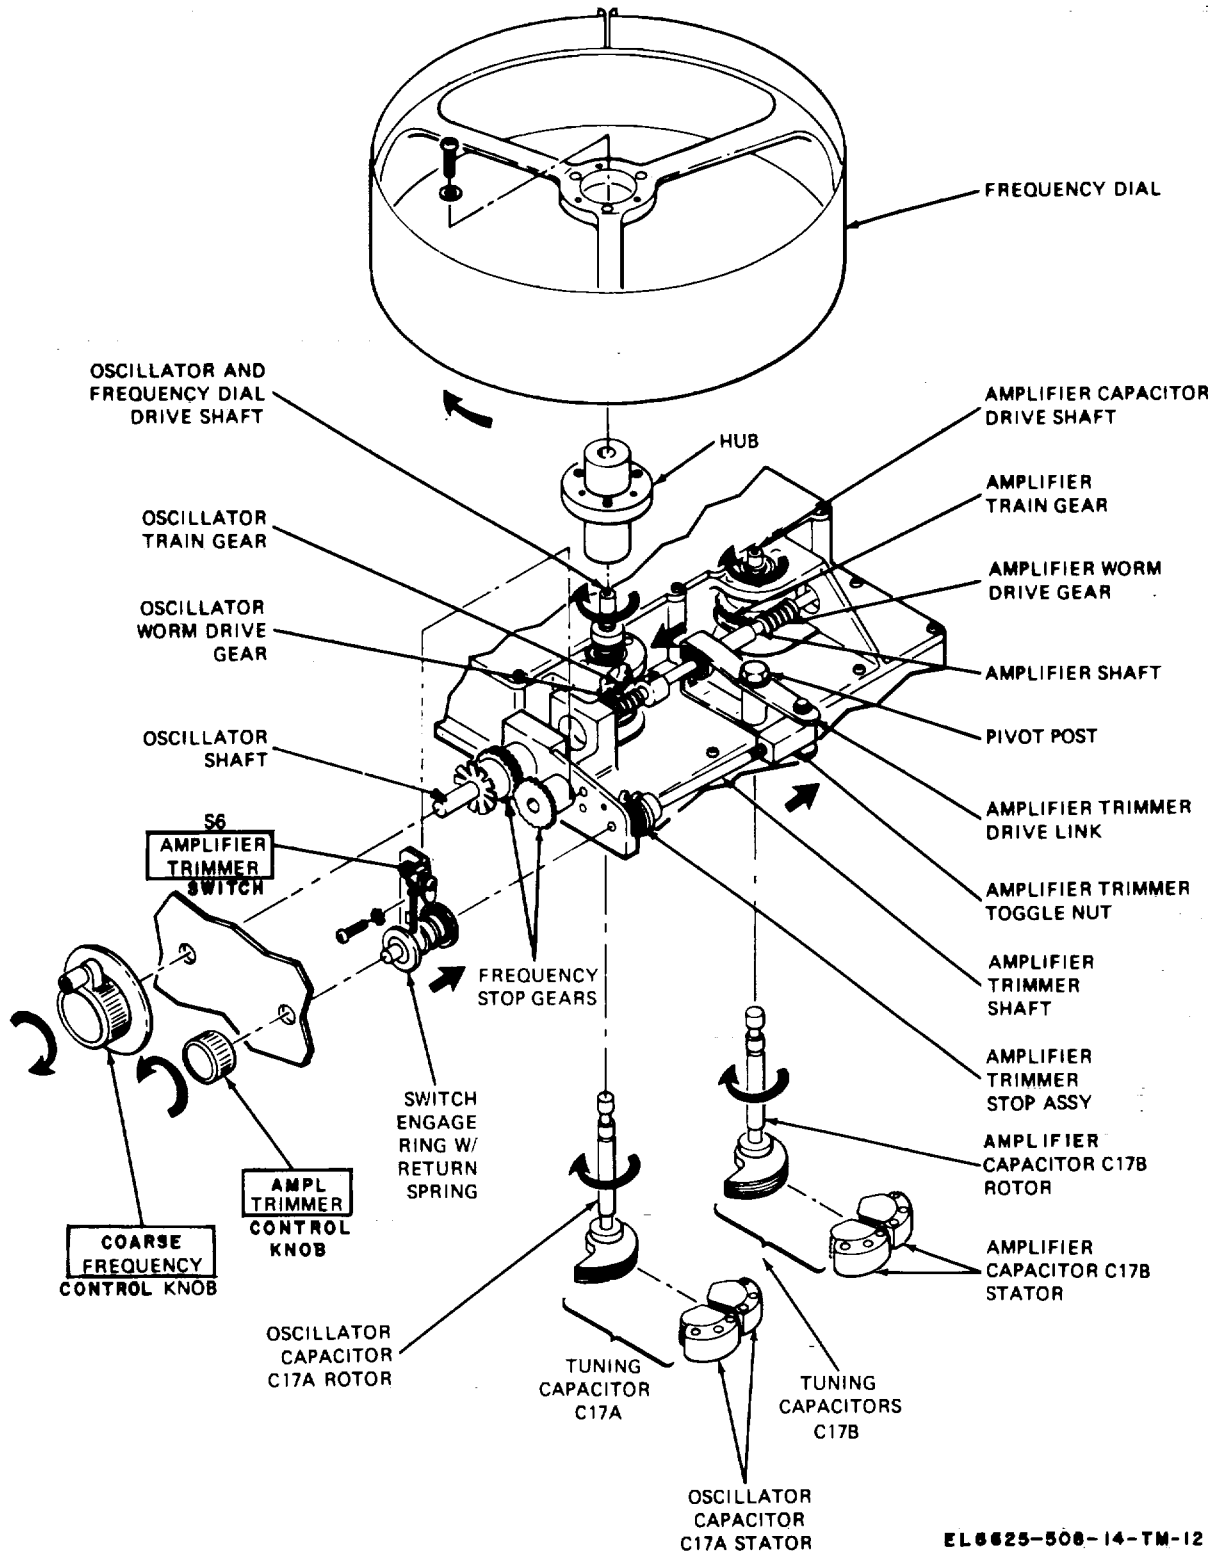

Figure 5-3. Rf variable frequency tuning components
b. The oscillator and amplifier shafts are so coupled (fig. 5-3), that when the coarse frequency control knob is rotated, their respective worm drive gears are also rotated.
c. The worm drive gears engage and rotate oscillator and amplifier train gears, thereby changing rotor positions with respect to oscillator and amplifier stators. The rotational arrows illustrated in figure 5-3 indicate orientation of frequency tuning components when the coarse frequency control knob is rotated clockwise. In addition:
(1) Oscillator shaft, amplifier shaft, and their respective worm drive gears rotate clockwise, causing the engaged train gears to also rotate clockwise.
(2) The oscillator train gear is directly coupled to the frequency dial along with tuning capacitor C17A. The coarse frequency control knob can be rotated 35 full turns, from full counterclockwise to full clockwise, and is controlled, as shown in figure 5-3, by two
d. The AMPL TRIMMER control knob is permitted two full rotations by the amplifier stop assembly, limiting the amount of fine tuning that can be obtained. Figure 5-3 illustrates how the trimmer controls the amplifier tuning capacitor through the amplifier trimmer shaft and attached components.
(1) The amplifier trimmer shaft is attached directly to its knob at the front end and to the trimmer toggle nut at the back end. The amplifier trimmer stop assembly, the switch engage ring, with return spring, are also attached to the shaft.
(2) When the AMPL TRIMMER knob is depressed, the return spring action closes amplifier trimmer switch, S6. This places RF OUTPUT meter M1, shown in figure 5-7, into the circuit. Interaction of amplifier trimmer components may be understood by following what happens when the trimmer knob is rotated counterclockwise and consulting figure 5-3.